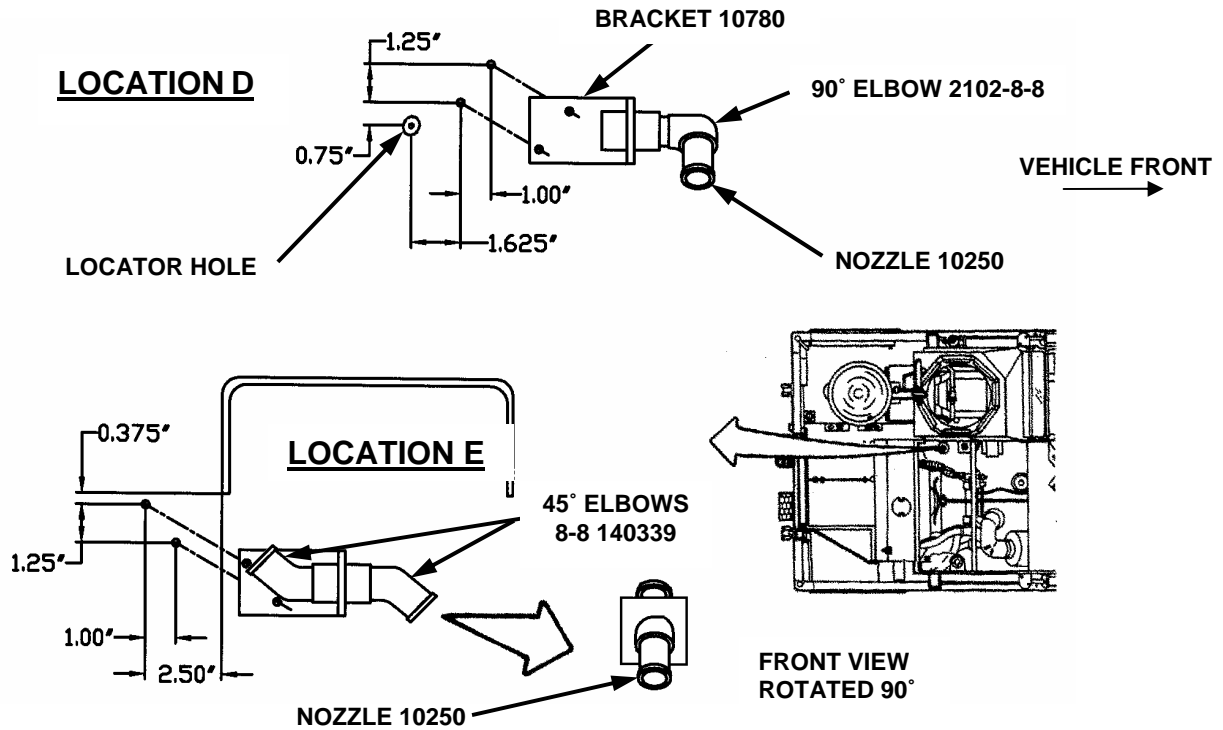

Figure 3-2. Left Side Nozzle Bracket Installation
Steps a through f below apply to Figure 3-2.
- a. Using suitable machinist's ruler, measure, mark, and center punch, for drilling and tapping four holes for two brackets (10780) on left side (Figure 3-2).
- c. Install two brackets (Figure 3-2) with four washers (MS27183-49) and screws (B1821BH025C050N).
- d. Install one 90° elbow (2102-8-8) and nozzle (10250) at LOCATION D (Figure 3-2). Using suitable machinist's protractor and straight edge, direct 90° elbow towards engine with 25° angle down from horizontal.
- e. Install two 45° elbows (8-8 140339) and one nozzle (10250) at LOCATION E (Figure 3-2).
- f. Direct forward 45° elbow at LOCATION E (Figure 3-2) towards vehicle front with 45° angle down. Direct rear 45° elbow at Location E (Figure 3-2) towards vehicle rear with 45° angle up.
Locator hole for Location D (Figure 3-2 above) is hole for fire extinguisher system cable into driver's compartment.